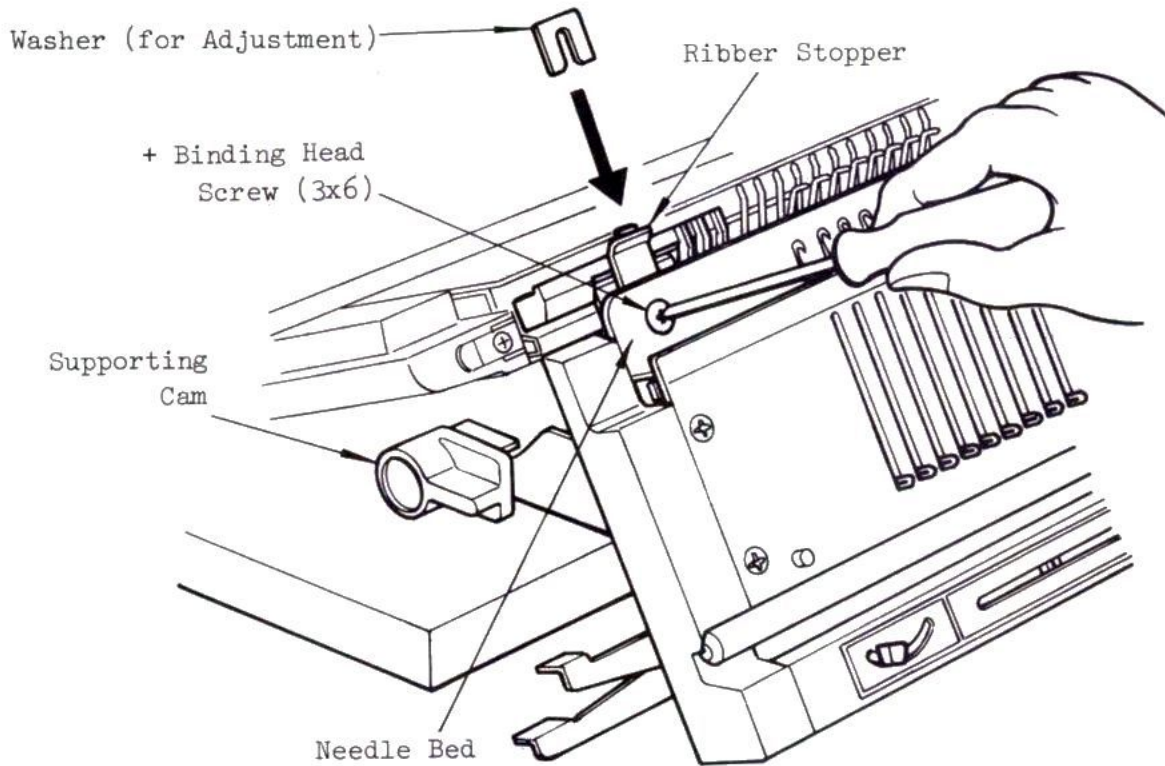

Fig. 13
4. If the measurement is not within the range of  $0.3 \text{ m/m} - 0.7 \text{ m/m}$ , please refer to Fig. 13 on page 14 for the relevant adjustment.